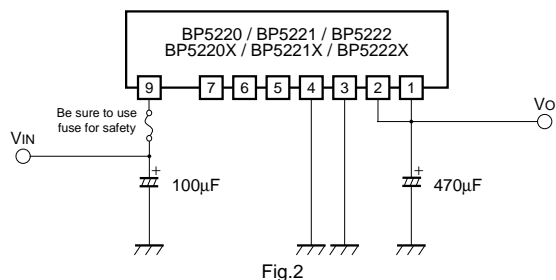

Fig.2
- (1) The basic application examples are shown in Fig.2.